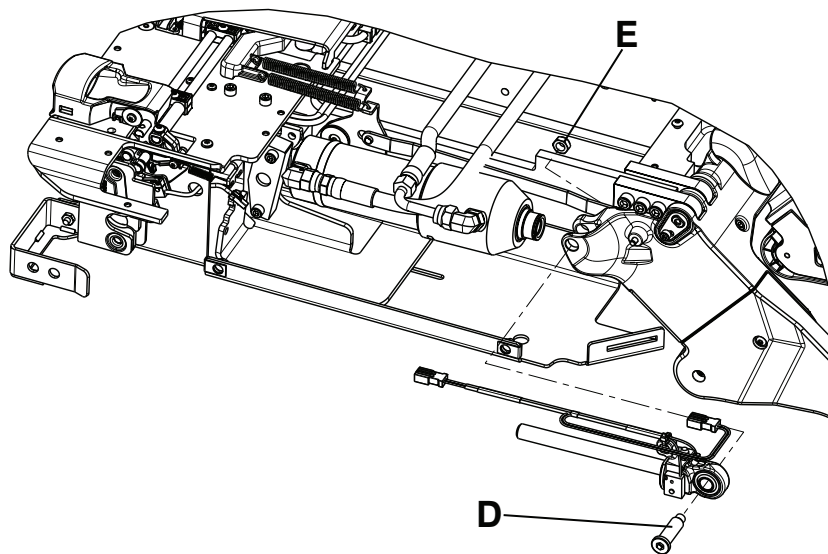

Figure 15: End cap cylinder pin and nut locations
- Using a 1/4" hex wrench and a 1/2" combination wrench, remove the end cap cylinder pin (D) and nut (E) (Figure 15 on page 49).